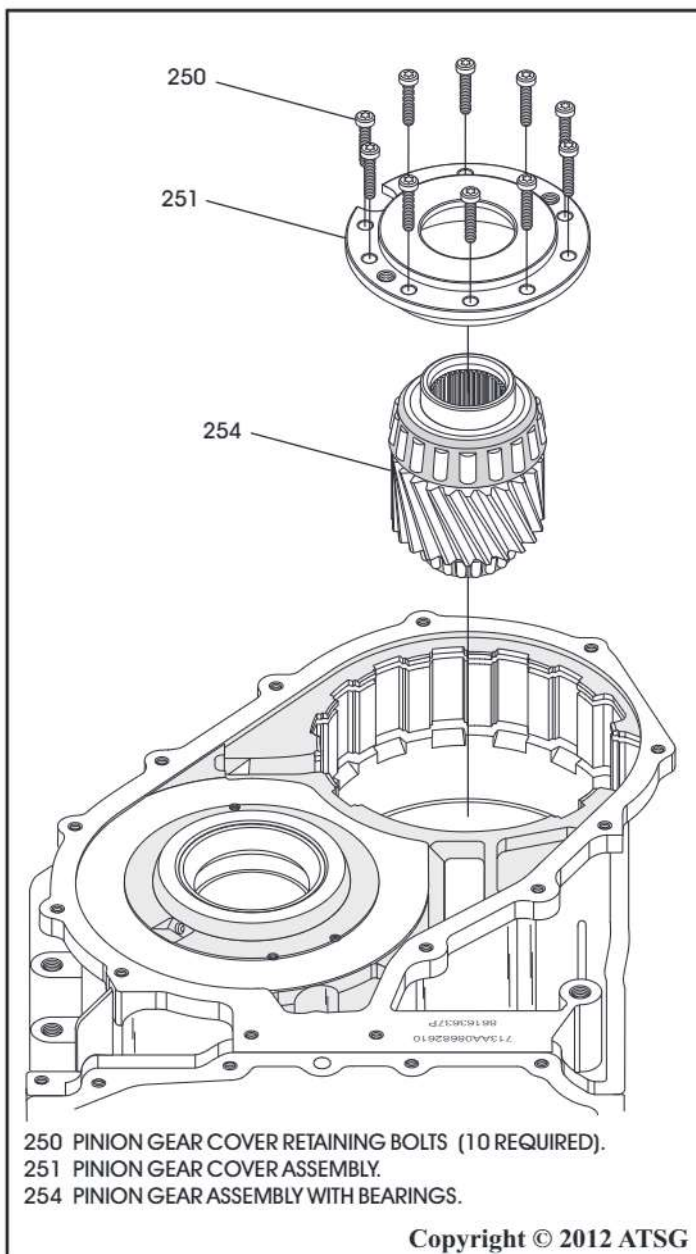

Figure 87
85. Remove the 10 bolts retaining the pinion gear cover in the case using a T30 Torx bit, as shown in Figure 87.